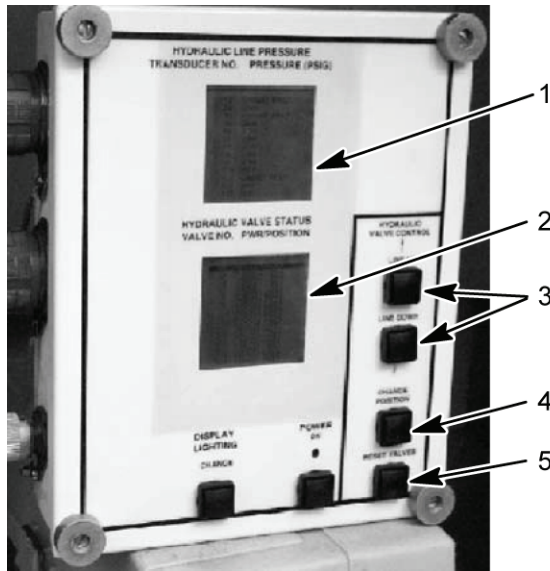

Figure 7. HDC Control Box
- Reset all HDC solenoid valves by selecting the RESET VALVES button (Figure 7, item 5) on the HDC control box.
- Disable ejector by manually closing the ejector inhibit ball valve V23 (Figure 8, item 1) on the DCV bank. Using LINE UP or LINE DOWN button (Figure 7, item 3), select V1 on the HDC display (Figure 7, item 2). Close V1 on the HDC display (Figure 7, item 2) by selecting the CHANGE POSITION button (Figure 7, item 4) on the HDC control box.
- Have assistant start engine and hold EJECTOR CONTROL lever in the FORWARD position. Read transducer T-2 hydraulic pressure on the HDC display (Figure 7, item 1).
- Enable ejector by manually opening the ejector inhibit ball valve V23 (Figure 8, item 1) on the DCV bank. Using LINE UP or LINE DOWN button (Figure 7, item 3), select V1 on the HDC display (Figure 7, item 2). Open V1 on the HDC display (Figure 7, item 2) by selecting the CHANGE POSITION button (Figure 7, item 4) on the HDC control box.